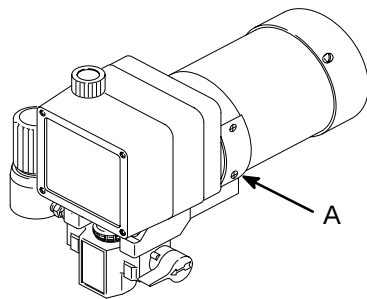

Fig. 13
1. Remove both inspection covers (A) and their gas-kets. See Fig 13.